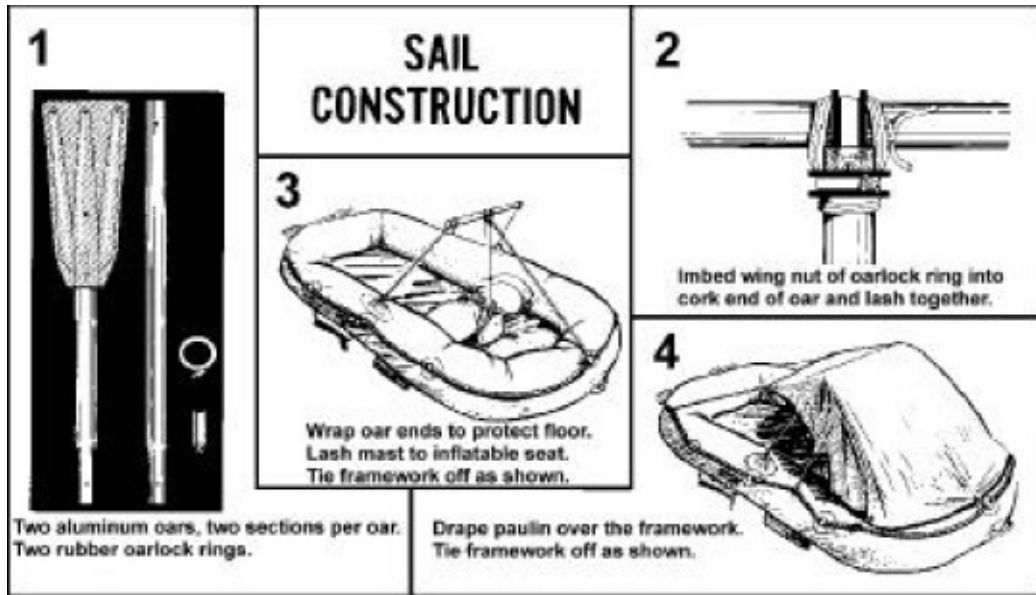

Figure 2-12. Shade/sail construction
- (3) Sit up in raft so body catches the wind.
- (4) Construct a shade cover/sail (**Figure 2-12**). (Sail aids in making landfall.)